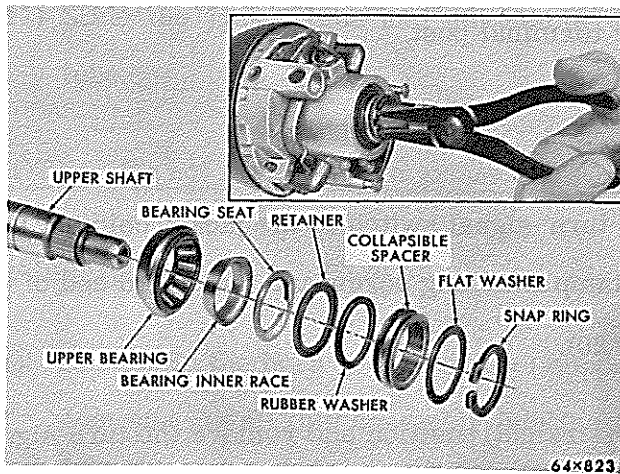

Fig. 23 - Removing Retainer Ring and Sequence of Parts
- (7) Remove the upper shaft bearing snap ring with snap ring pliers Tool C-3128 (Fig. 23).
- (8) Remove the flat washer, collapsible spacer, rubber washers, retainer, bearing seat, bearing inner race, and upper steering shaft upper bearing, (Fig. 23).
- (10) Install the turn signal actuator yoke assembly making sure that the ball socket engages the turn signal bellcrank ball.
- (11) Install the upper bearing (rollers facing up), (Fig. 23) bearing inner race, bearing seat (flanged portion "up"), retainer (dish facing up), rubber washer, a new collapsible spacer, and washer.